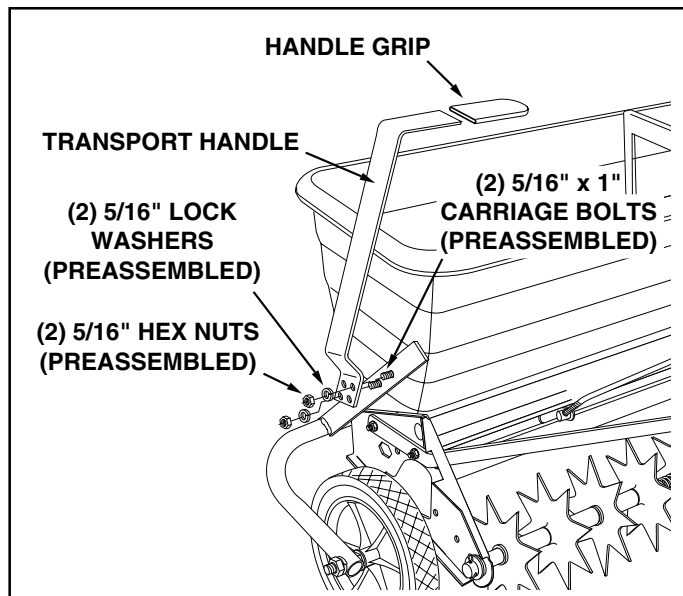

FIGURE 8
18. Remove the two $5/16''$ lock washers and $5/16''$ hex nuts from the carriage bolts which are pre-assembled to the lift assembly arm. Attach the transport handle to the arm using the lock washers and hex nuts which you removed. See figure 8.
19. Assemble the handle grip to the transport handle. See figure 8.